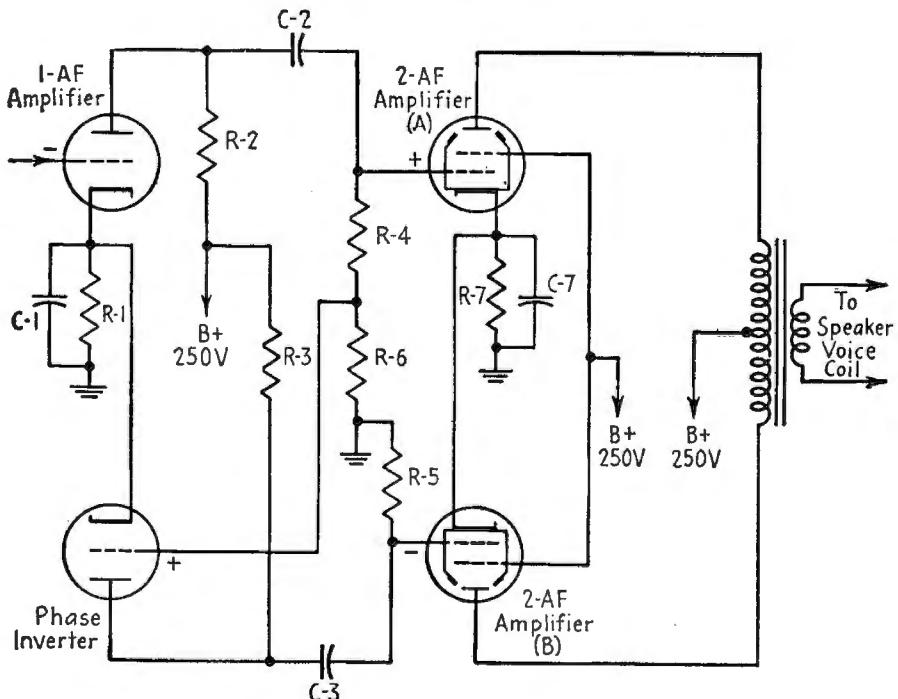

FIG. 21-12.—Obtaining a negative signal on the other push-pull tube grid from the output of the phase-inverter tube.
The positive signal pulse on the inverter grid causes a rise of plate current through the plate load resistor $R-3$. The voltage drop across $R-3$ becomes greater and, as a result, the plate voltage of the inverter drops and produces a negative pulse. This latter pulse is fed by resistance-capacitive coupling to the second AF (B) control grid, as shown in Fig. 21-12. Condenser $C-7$ and resistor $R-7$ make up the common self-bias system for both push-pull tubes.